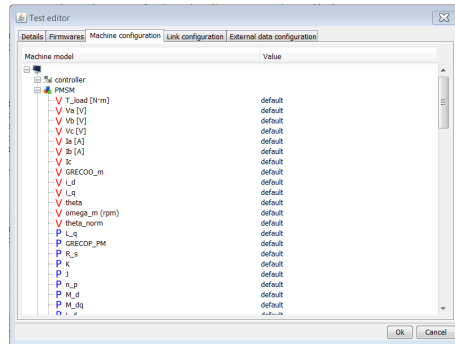

Figure 6.8: Click Create new Test to add a new Test in the Test Sequence.
- *Details*, is shown in Figure 6.8;